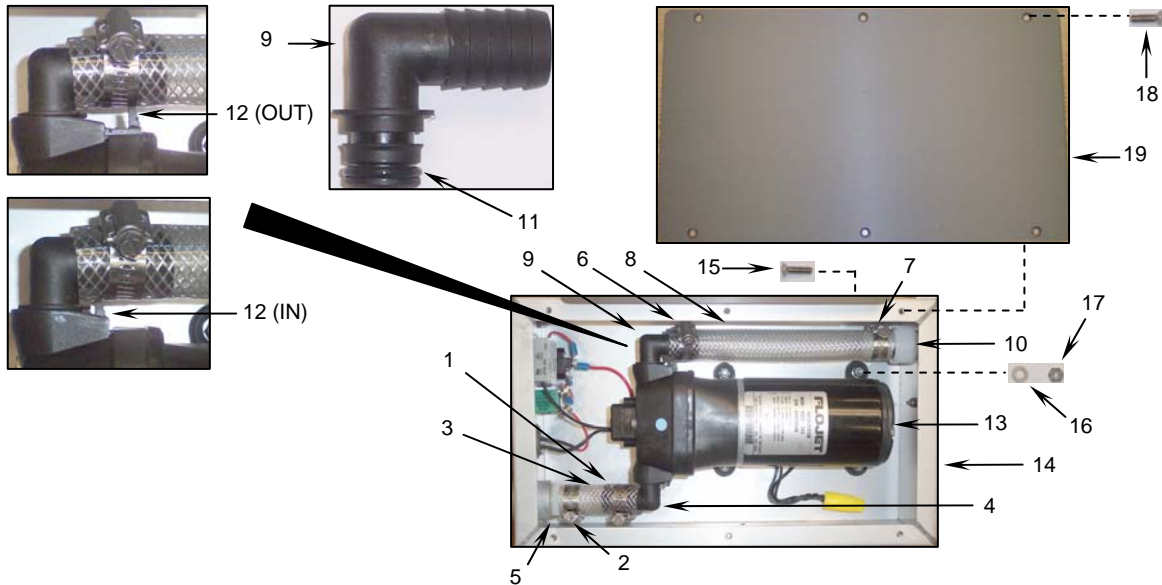

Figure 4. Installing the Sink Fill Pump Assembly Internal Tubing.
- a. Measure and cut one piece of long tubing (**Figure 4, Item 8**) to length as required from bulk.
- b. Measure and cut a second piece of shorter tubing (**Figure 4, Item 3**) to length as required from bulk.
- c. Slide two hose clamps (**Figure 4, Item 1**) and (**Figure 4, Item 2**) over the shorter tubing (**Figure 4, Item 3**).
- d. Push one end of the shorter tubing (**Figure 4, Item 3**) onto the discharge elbow (**Figure 4, Item 4**) and the other end onto the outlet adapter (**Figure 4, Item 5**).
- e. Slide two hose clamps (**Figure 4, Item 6**) and (**Figure 4, Item 7**) over the longer tubing (**Figure 4, Item 8**).
- f. Push one end of the longer tubing (**Figure 4, Item 8**) onto the suction elbow (**Figure 4, Item 9**) and the other end onto the inlet adapter (**Figure 4, Item 10**).
- g. Ensure that an O-ring (**Figure 4, Item 11**) is in place on the suction elbow (**Figure 4, Item 9**) and that the pump suction elbow retaining tab (**Figure 4, Item 12**) is pulled out, then insert the pump suction elbow into the pump (**Figure 4, Item 13**). Push the retaining tab in all the way.
- h. Ensure that an O-ring (**Figure 4, Item 11**) is in place on the discharge elbow (**Figure 4, Item 4**) and that the pump discharge elbow retaining tab (**Figure 4, Item 12**) is pulled out, then insert the pump discharge elbow into the pump (**Figure 4, Item 13**). Push the retaining tab all the way in.
- i. Position the pump (**Figure 4, Item 13**) in the enclosure (**Figure 4, Item 14**) and secure with the four flat head machine screws (**Figure 4, Item 15**), four flat washers (**Figure 4, Item 16**), and four self-locking nuts (**Figure 4, Item 17**).
- j. Position and tighten all four hose clamps (**Figure 4, Item 1**), (**Figure 4, Item 2**), (**Figure 4, Item 6**), and (**Figure 4, Item 7**).
- k. Apply sealing compound to the six flat head machine screws (**Figure 4, Item 18**). Secure the fill pump cover (**Figure 4, Item 19**) to the sink fill pump assembly enclosure (**Figure 4, Item 14**) using the six screws.